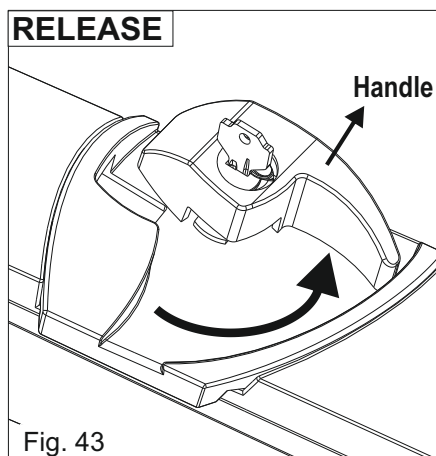

Fig. 43
- 3) Turn the handle counter-clockwise to release the operator (Fig. 43)